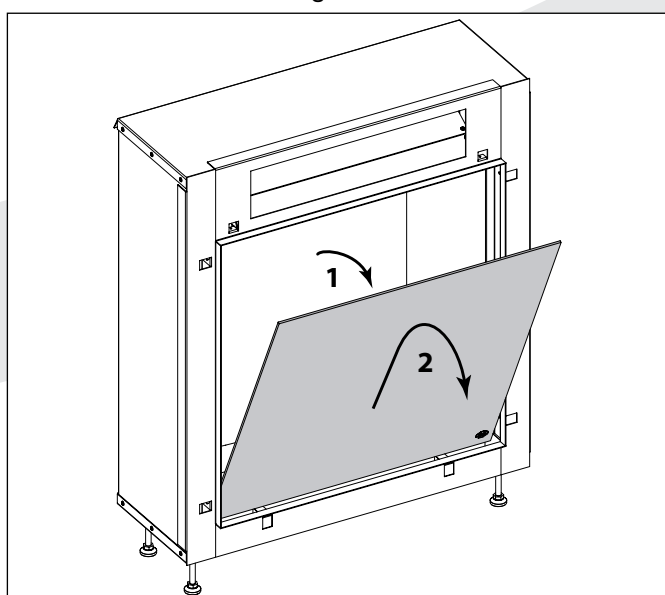

Figure 8
3. Tilt the glass pane slightly forward (figure 8). Lift the pane carefully out of the appliance (**take care to avoid damage to the construction frame!**). Set the glass pane down in a safe place where it cannot be broken.